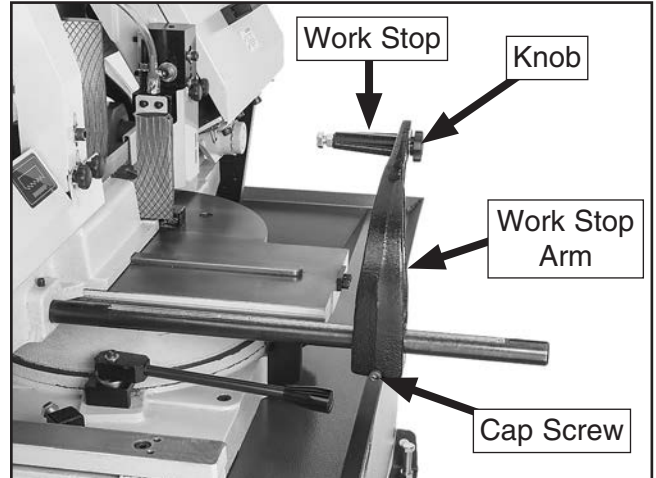

Figure 16. Work stop attached to work stop arm.
- Slide work stop arm onto stop rod, position it as necessary, then tighten cap screw (see **Figure 16**).
- Insert work stop into arm and secure with knob (see **Figure 16**).